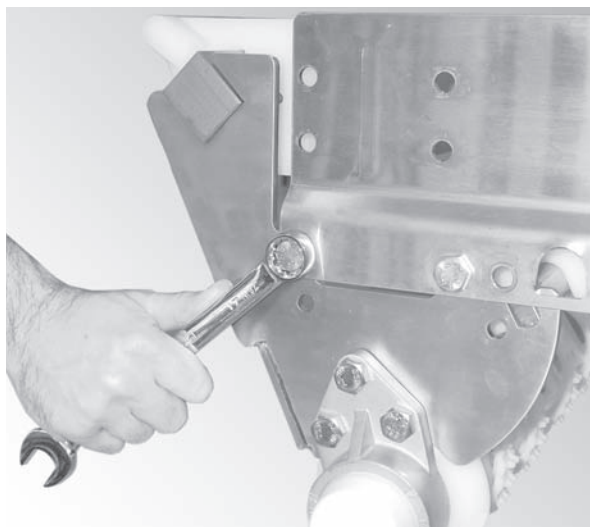

Figure 12
1. Bolt the nose bar drive tail assembly to the conveyor frame (**Figure 12**).